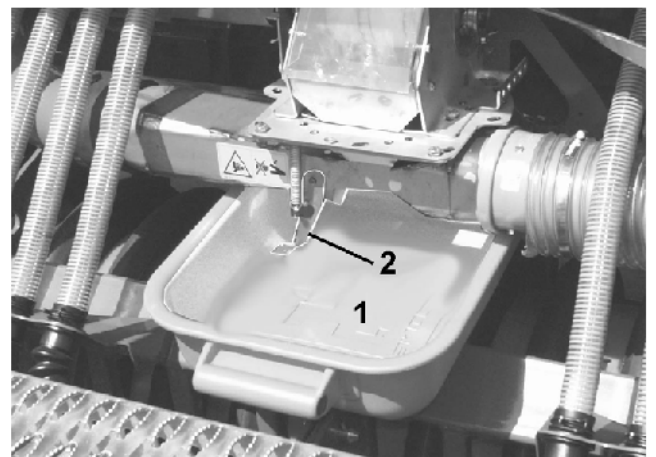

Fig. 116
Open the injector sluice flap (Fig. 116/1) to allow the seed to flow into the seed collecting trays.
**Danger of squeezing when opening and closing the injector sluice flap (Fig. 116/2)!**
**Only hold the injector sluice flap at the strap (Fig. 116/1) as otherwise danger of injury exists when the spring loaded flap shuts.**